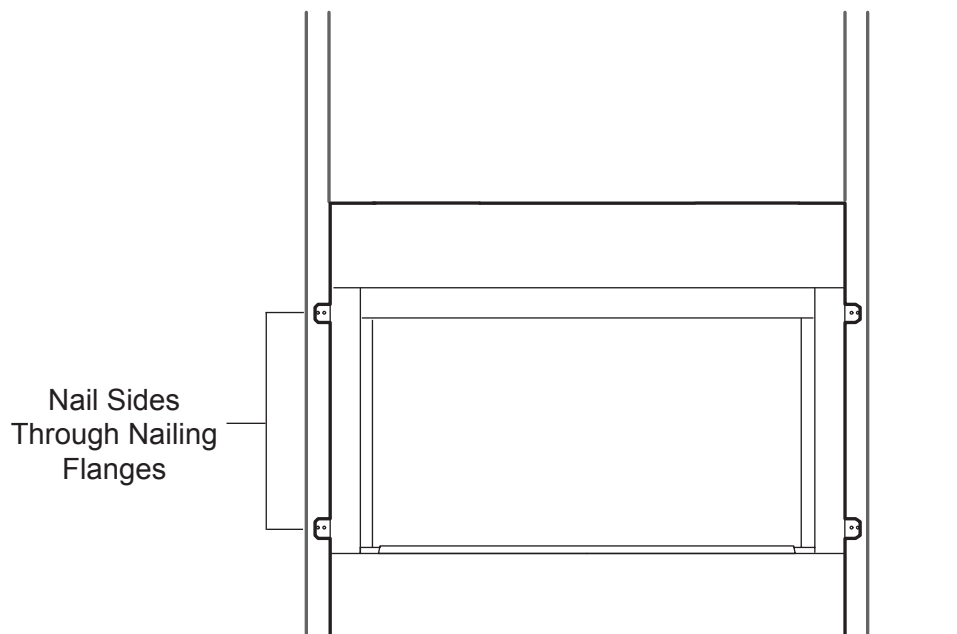

Figure 14 - Location of Nailing Flanges
4. Anchor firebox to the side framing members using 8d nails or other suitable fasteners. *Refer to Figure 14.*